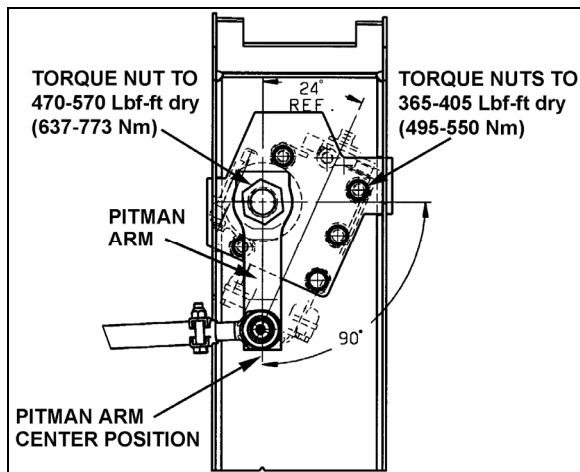

FIGURE 9: PITMAN ARM ALIGNMENT
2. Afterwards, the pitman arm should be adjusted with reference marks aligned or to an angle of 90° in relation with the horizontal axis (Fig. 9).